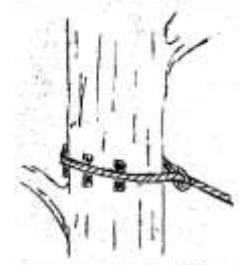

Figure 1.
1. Wrap the cable around the tree by inserting the straight end of the cable through the looped end (fig. 1.). If desired, use our Tree Saver Kit to protect tree.